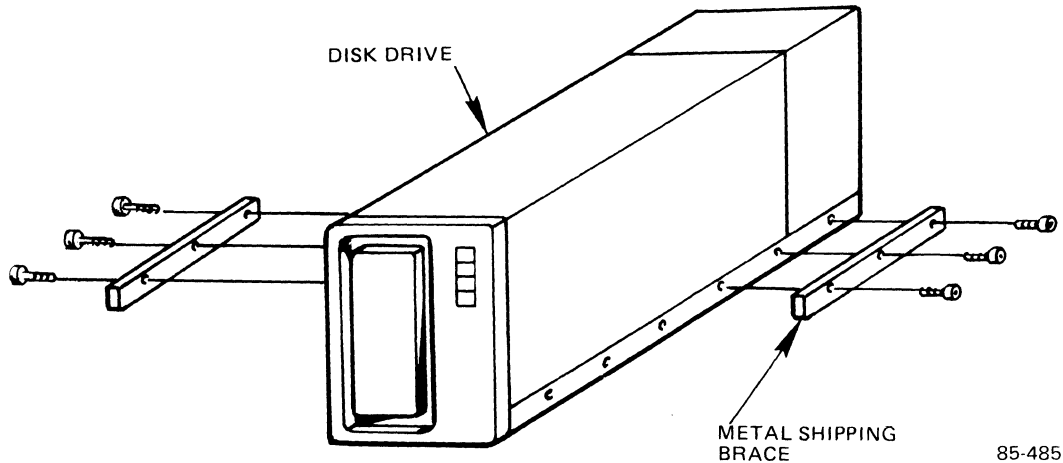

Figure 2-7. Removing the Shipping Braces
13. At the disk drive, locate the shipping braces on both sides of the drive. Remove the shipping brace on one side by removing the three screws (see Figure 2-7). Repeat for the other side.